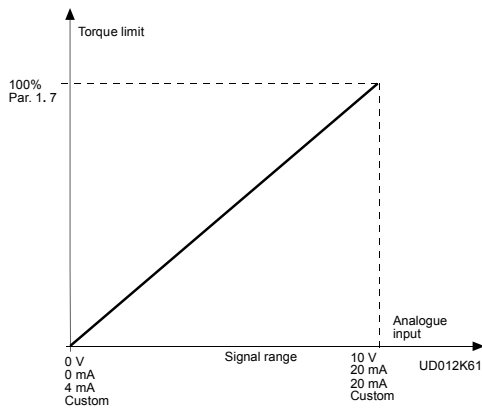

Figure 6-9: Reducing Maximum Motor Current
- 1 “I lim Scaling”** — Reducing motor current limit. This signal will adjust the maximum motor current between 0 and parameter maximum limit set with parameter 1.7. See Figure 6-9.